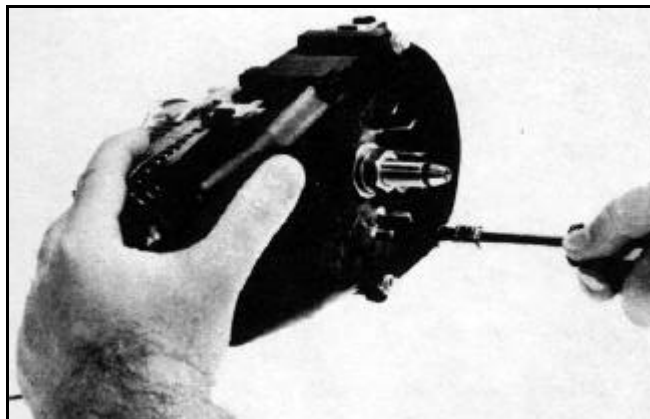

Figure 225 0406-042
5. Remove the cooling shroud (Figure 225).